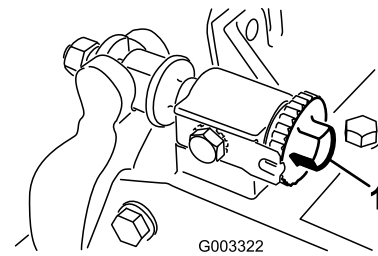

Figure 30
1. Loosen reel to bedknife contact by turning the bedknife adjusting knobs (Figure 30) counterclockwise until no contact exists.